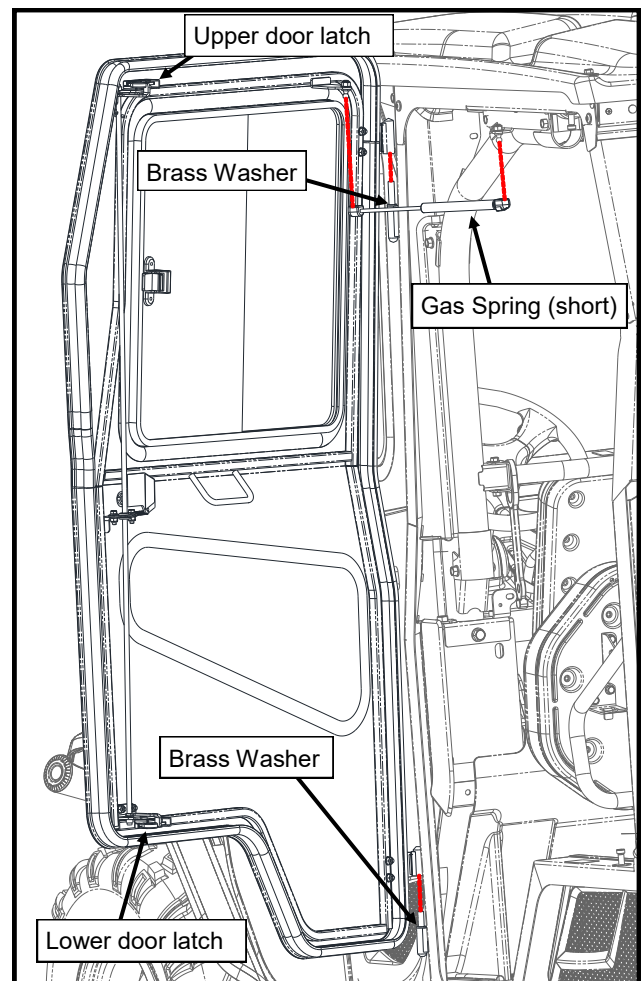

Figure 12.1: Rear Door Installation (Driver's side shown)
- 12.1 Install a total of (4) Brass Washers onto the weld-on hinge pins on the B-Pillars, one washer per pin (see Figure 12.1).
- 12.3 Holding the door perpendicular to the vehicle, lower the door hinge sleeves over the pins on the vehicle (see Figure 12.1).
- 13.7 Open door to slightly less than 90°. Install the shorter pair of gas springs onto the rear door and rear side header ball studs with the red tab quick release end on the side header (see Figure 12.1).